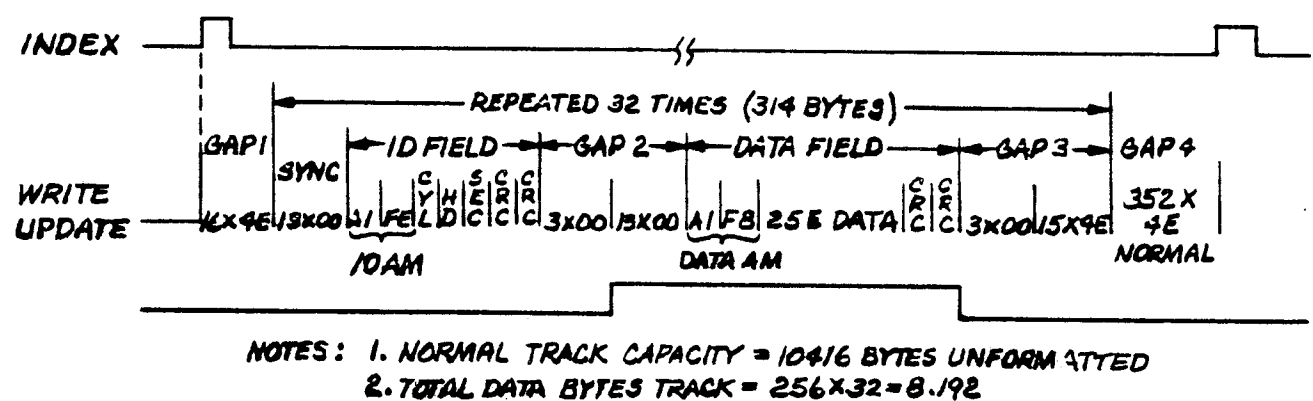

Figure 3-22. ST506/412 Format
The format shown below in figure 3-22, the ST506/412 format, is a format commonly used on lower performance disk drives. Its efficiency of 81% (unformatted capacity/formatted capacity) is typical; however other efficiencies can be obtained by varying the number of sectors per track. The ST506/412 format is a soft sector format which means that the beginning of each sector is defined by an Address Mark and a prewritten identification (ID) field which contains the physical sector address plus cylinder and head information. The ID field is then followed by a user supplied data field.